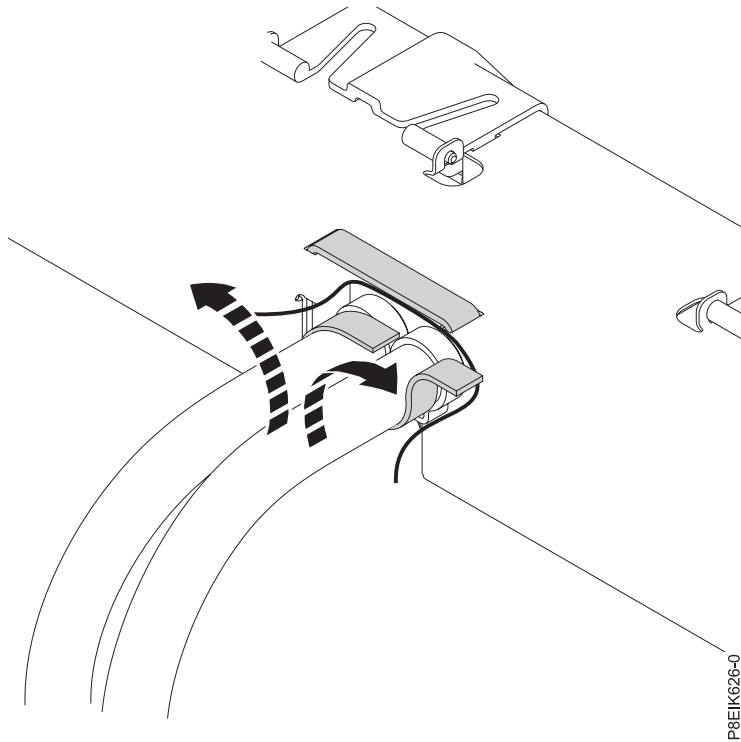

Figure 26. Unfastening the water hoses from the carrier
3. After all the cold plates are secured to their corresponding GPU or processor module, unfasten the hook-and-loop fastener from the water hoses as shown in Figure 26 on page 21.